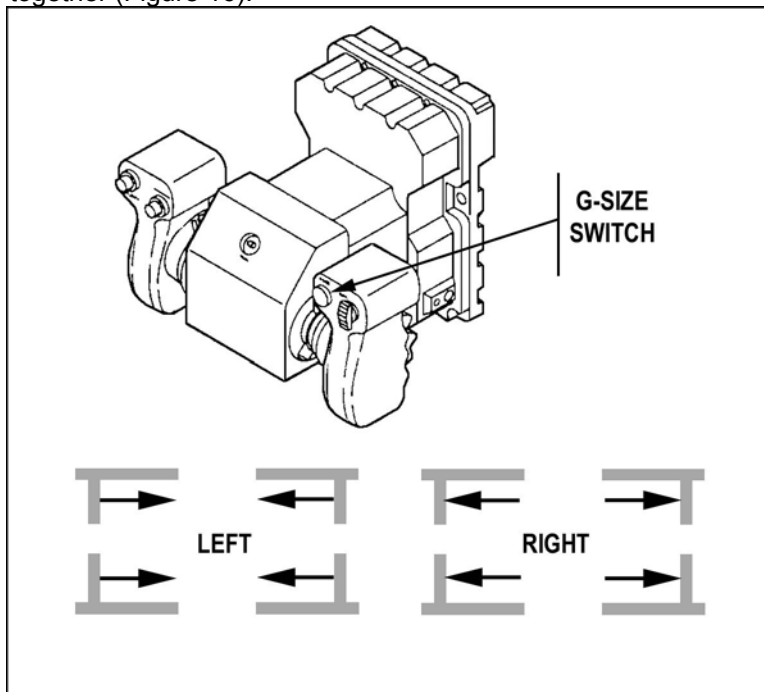

Figure 16. G-SIZE LEFT/RIGHT switch.
- (2) Move the G-SIZE switch right to move the vertical lines apart or left to move the vertical lines together (Figure 16).